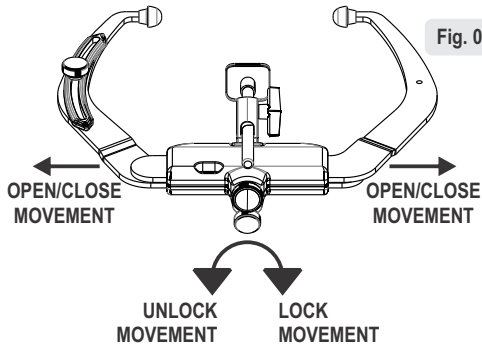

Fig. 01A
Use the brake locking knob (6) to lock the metal bows in the desired position (Fig.01A). Do not exaggerate with the force applied to the pulley, because it is not necessary and might damage the system.